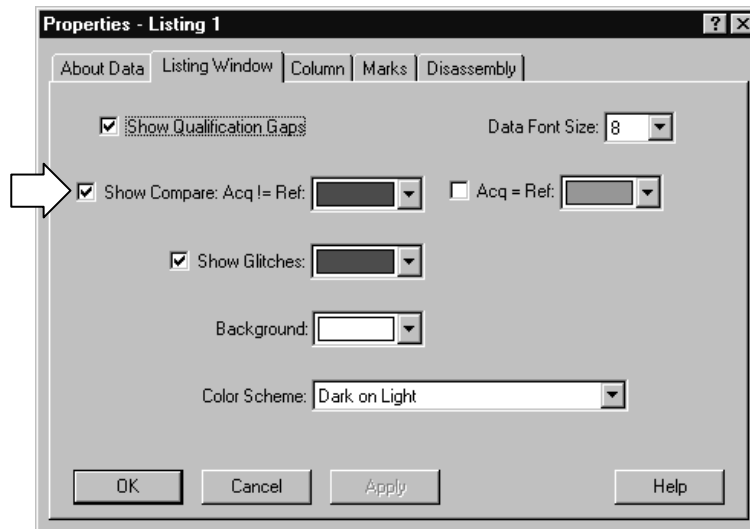

Figure 3–49: Selecting compare data colors in the Listing Window property page
3. Select Show Compare, and select one of the colors for when data does not equal the reference data (Acq!=Ref). See Figure 3–49.